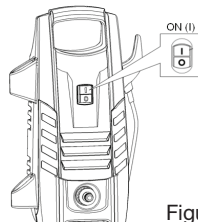

Figure 11
10. Press the ON/OFF switch to the ON position (marked I). See figure 11.
2. Press the ON/OFF switch to ON position marked as I. (Figure 11 above)